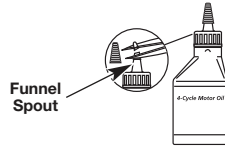

Fig. 3
NOTE: This unit is shipped without oil. In order to avoid damage to the unit, put oil in the crankcase before you attempt to start the unit. Your unit is supplied with one 3.04 fluid oz. (90 ml) bottle of SAE 30 SF, SG, SH oil (Fig. 3).
1. Unscrew the top of the bottle of oil and remove the paper seal covering the opening. Replace the top. Next, cut the tip off the funnel spout (Fig. 3).